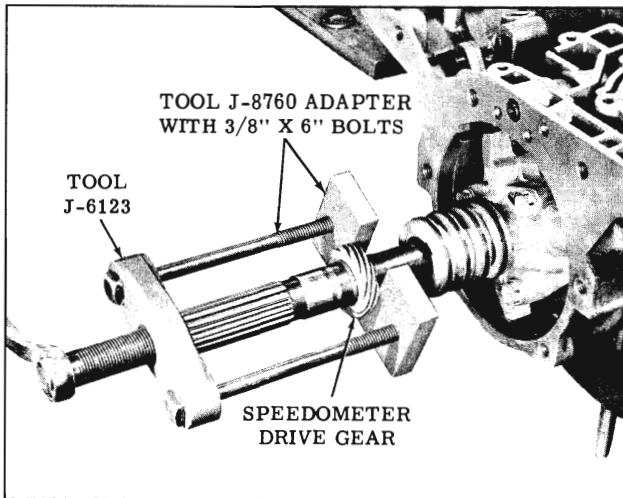

Fig. 3-233 Removing Speedometer Gear
25. With parking pawl engaged, remove the speedometer drive gear using Tool J-8760 and J-6123. (Fig. 3-233)